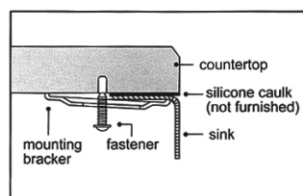

FIGURE 1
A. Flush mount : Sink edge is flush with countertop opening. (FIGURE 1)